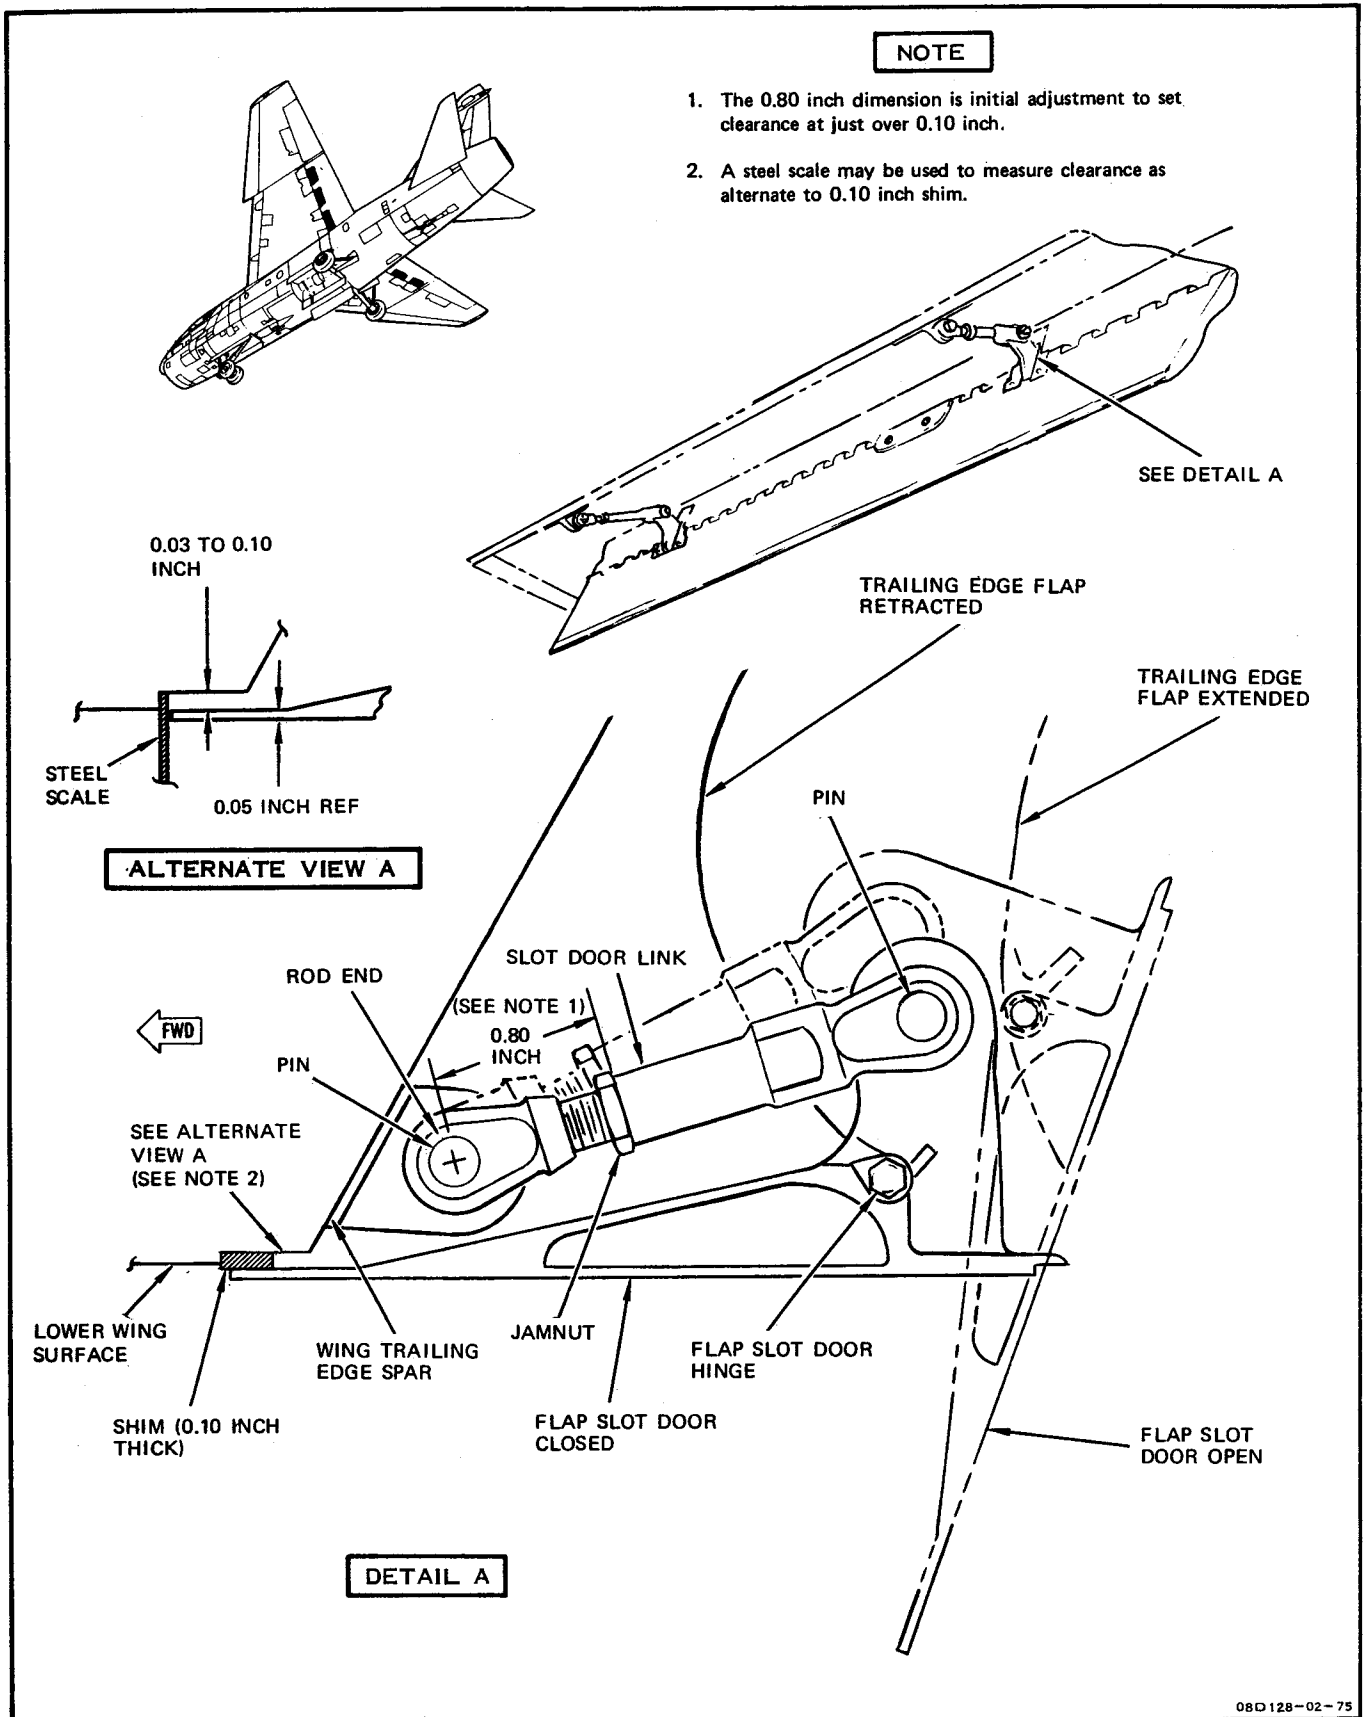

Figure 9-19. Rigging Flap Slot Doors
9-46. RIGGING FLAP SLOT DOORS. (See figure 9-19.)
A steel scale may be used, as an alternate to the 0.10 inch shim, to measure the clearance between the trailing edge spar and slot door (figure 9-19). A measured clearance from 0.03 to 0.10 inch is correct. A 1/2 turn adjustment of the rod end will move the forward edge of the slot door approximately 0.06 inch.
i. Using a steel scale, measure and record clearance between the wing trailing edge spar and the slot door at link position (figure 9-19). Clearance should be 0.030 to 0.100 inch. If required, adjust link to obtain proper clearance as follows: